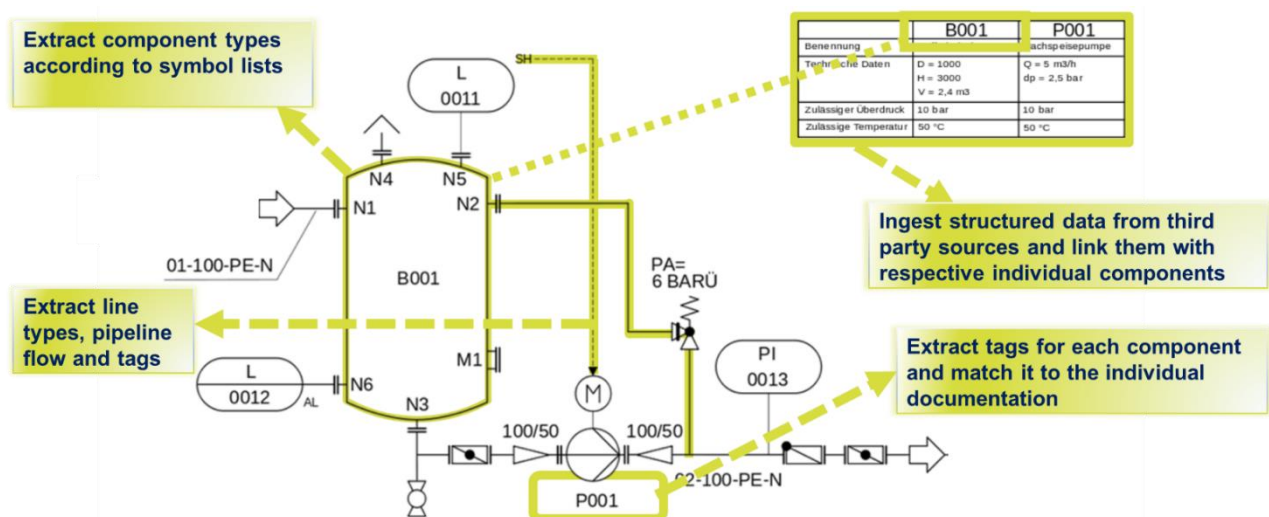

Figure 1: Extract Entities using Deep Learning
- Implement advanced CNN Models to recognize and digitize PFD elements accurately. (Refer to Fig 1 for types of entities to be extracted.)